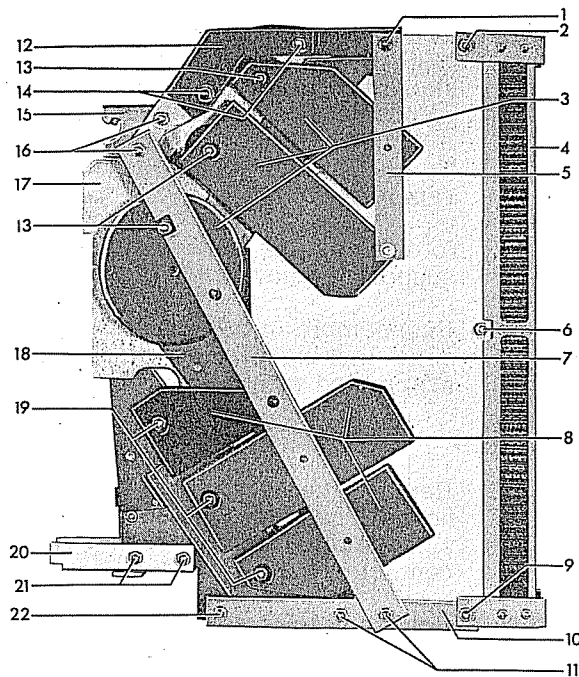
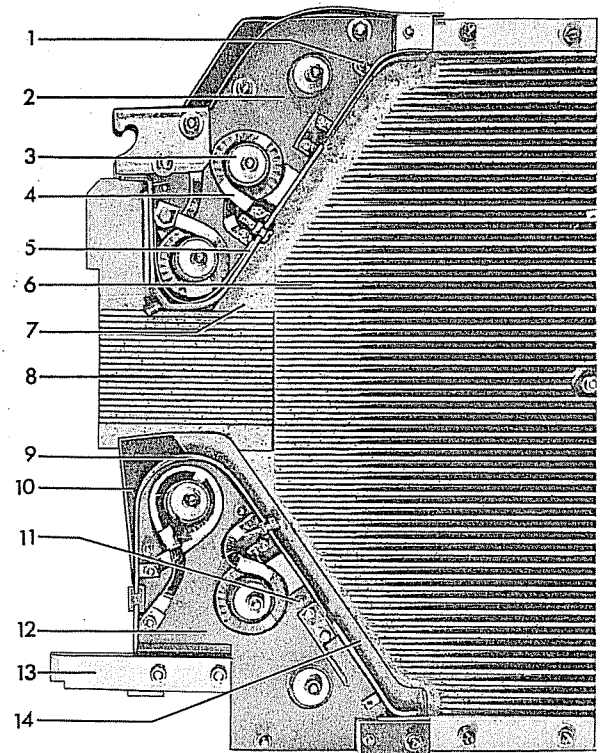
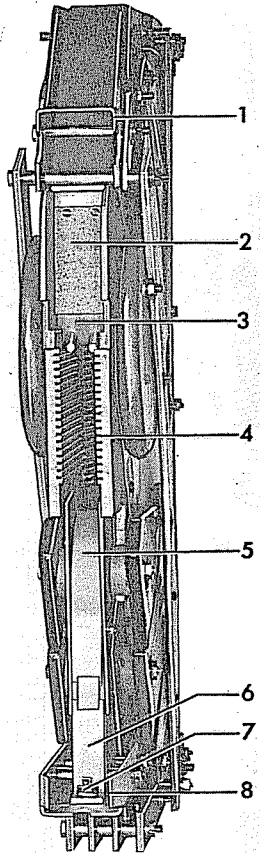

Figure 18 (8040401) Interrupter Assembly
Figure 19 (8040408) Interrupter Assembly with Muffler and Side Removed
Figure 20. (8040402) Interrupter Assembly
1. Remove the assembly bolts (1, 2, 6, 9, 11, 13, 16 and 19), Figure 18.
2. Remove the side brace (7) and rear brace (5), the upper pole pieces (3), the lower pieces (8), and the rear muffler assembly (4).
3. To remove the upper supports (12), and upper interrupter support (15) remove the assembly bolts (14) and the bolted connec-
4. Remove the assembly bolt (22) to remove the lower brace (10).
5. Remove the lower interrupter support (20) by removing the assembly bolts (21) Figure 18 and the connection nut (7) Figure 20.
6. At this point the throat cooler assembly (4) Figure 20, and the upper arc runner assembly (3) Figure 20, can be removed. The throat cooler assembly is a permanently cemented sub-assembly consisting of the upper insulation (17) Figure 18, side shield (18) Figure 18, upper insulation (7) Figure 19, and the throat cooler (8) Figure 19.
7. Further disassembly of both the upper and lower arc runner assemblies can be done by removing the various screws and assembly bolts (not illustrated) as shown in Figure 19.
8. The arc chute sides (6) Figure 19, can also be separated for inspection.
9. Do not disassemble the muffler assembly (4) Figure 18.
4. When reassembling the arc runner assemblies check that the spacers (1 and 11) Figure 19, are correctly installed.